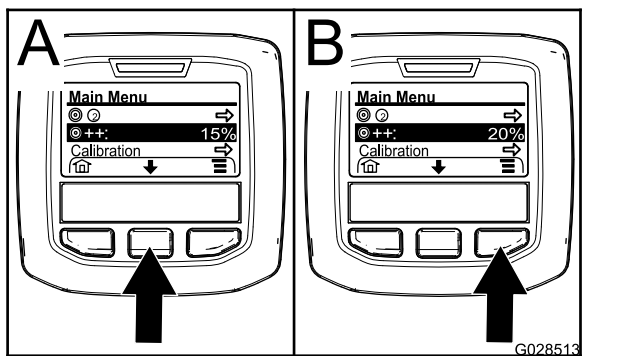

Figure 58
- If needed, press the center selection button to highlight the application rate boost (Figure 58).
Note: The icon for the the application rate boost look 2 (+) signs to the right of a bull's-eye target (Figure 58).
- Press the right selection button (Figure 58) to increase the boost percentage in 5% increments (20% maximum).